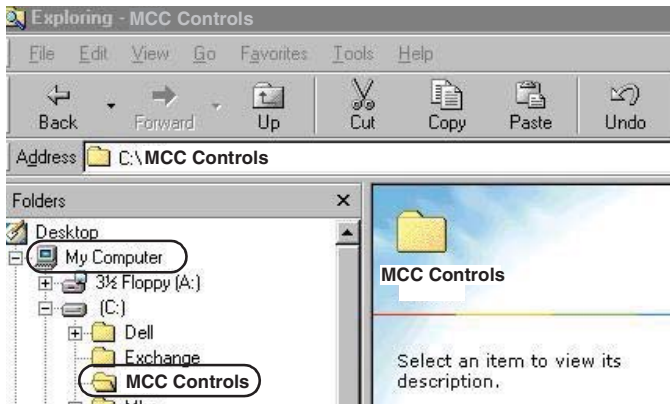

FIGURE 1
2. Click on **My Computer** icon (see Figure 1).